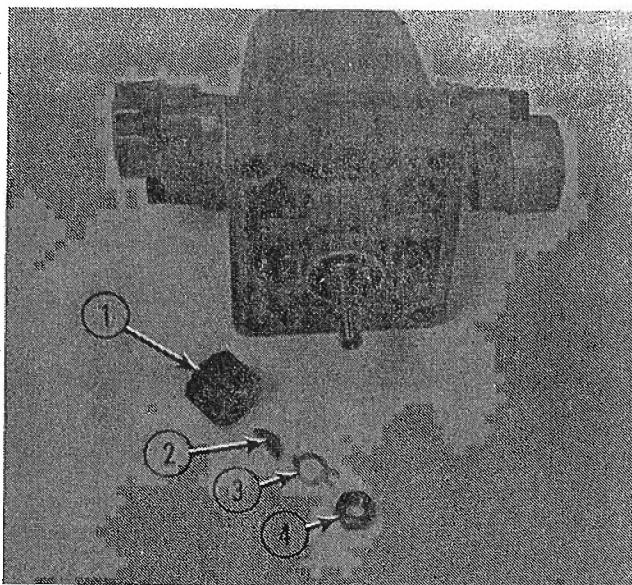

FIG. 4
Figure 4 shows the drive hub removed from the pump shaft with related parts.
- (1, Fig. 4) Drive Hub
- (2, Fig. 4) Woodruff Key
- (3, Fig. 4) Locking Washer
- (4, Fig. 4) 6 mm. Hex Nut
(4, Fig. 4)
After the 6 mm. nut is properly torqued, bend up the locking tabs on the locking washer. (3, Fig. 4)